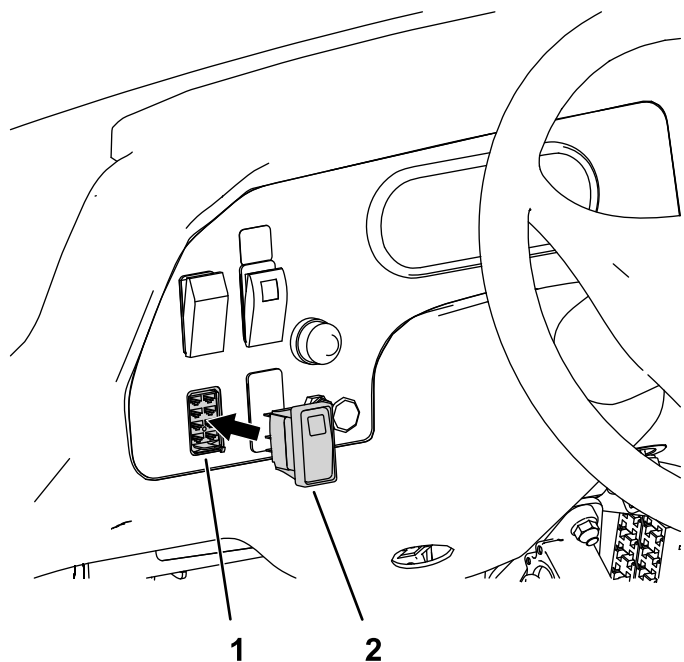

Figure 17
14. Remove a hole plug from the dash and install the rocker switch onto the 8-socket connector (Figure 17). Place the decal (137-6721) on the dash parallel to the rocker switch.